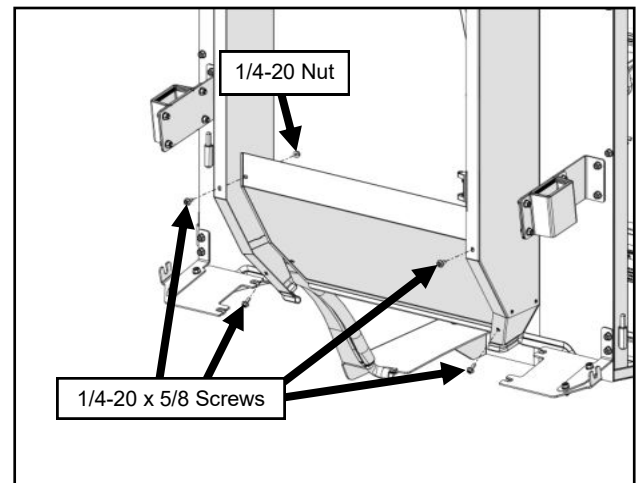

Fig. 9.1 (Lower Rear Panel)
9.1 Fasten the lower rear panel to the rear legs as shown in Figure 9.1.